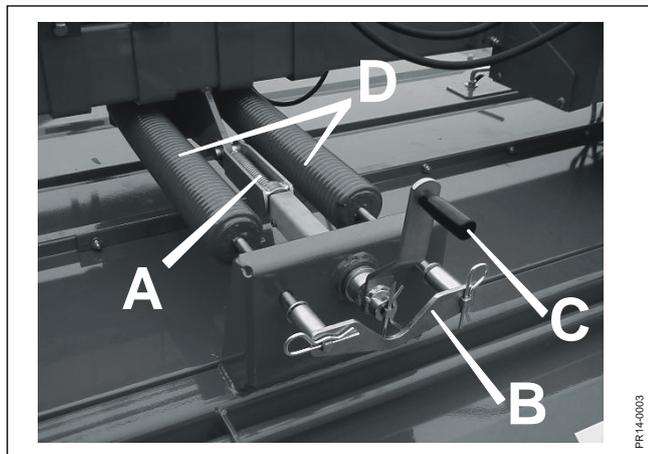

Fig. 3-9
- Fig. 3-9 When the correct position of the guide shoes has been chosen, the fine adjustment of the stubble height can be made by central adjustment of the inclination of the cutter bar at the spindle **A**. This is done by removing the lock **B** and turning with the handle **C**. After adjustment the lock **B** is mounted as it secures the adjustment. When the front board is folded up you can easily see how the angle of the cutter bar and the stubble height are changed.